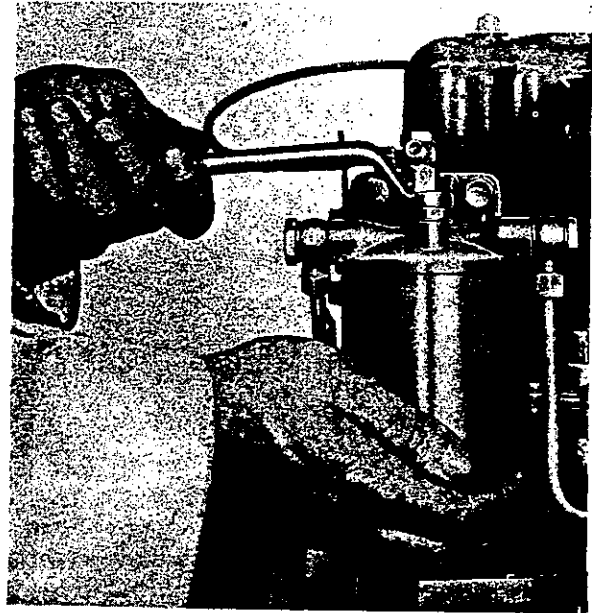

Fig. 24—Removing Filter Cover Screw
1. Unscrew the setscrew in the centre of the cover. (See Fig. 24).